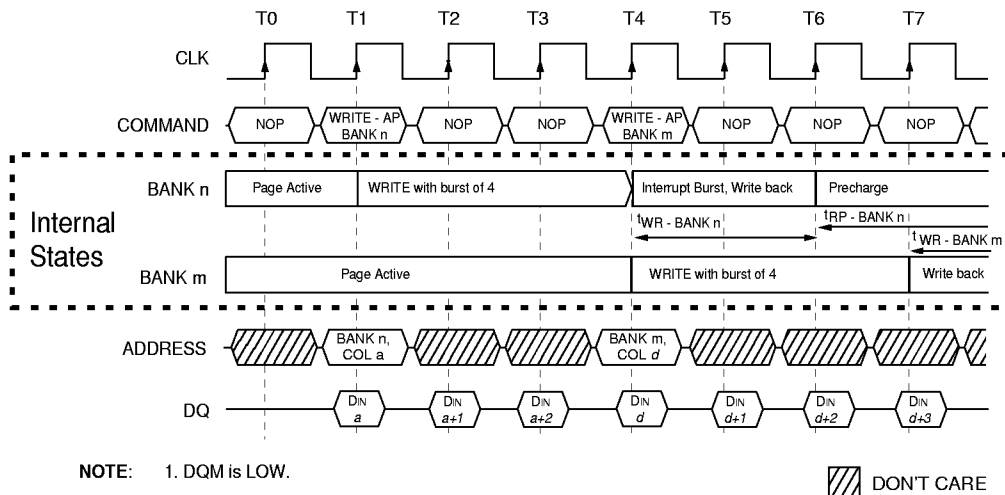

Figure 27
- Interrupted by a WRITE (with or without AUTO PRECHARGE): A WRITE to bank m will interrupt a WRITE on bank n when registered. The PRECHARGE to bank n will begin after t_{WR} is met, where t_{WR} begins when the WRITE to bank m is registered. The last valid data WRITE to bank n will be data registered one clock prior to a WRITE to bank 1 (Figure 27).